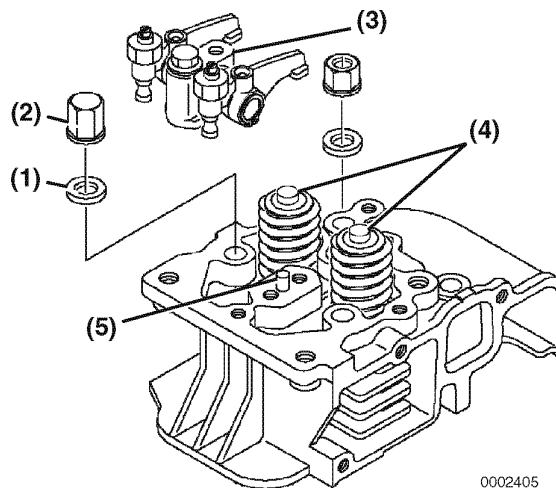

Figure 8-23
Note: Install the cap nuts (**Figure 8-23, (2)**) on the studs that will be covered by the rocker arm cover.
5. Lightly oil the threads of the cylinder head studs. Install the washers (**Figure 8-23, (1)**) and nuts. Tighten to the specified torque in two steps as shown in the chart below. Tighten in an "X" pattern. See *Special Torque Specifications* on page 8-16 for torque values.
7. Place the valve caps (**Figure 8-23, (4)**) on the valve stem tips.
8. Install the rocker arm shaft assembly (**Figure 8-23, (3)**). Be sure the alignment pin (**Figure 8-23, (5)**) is in place.